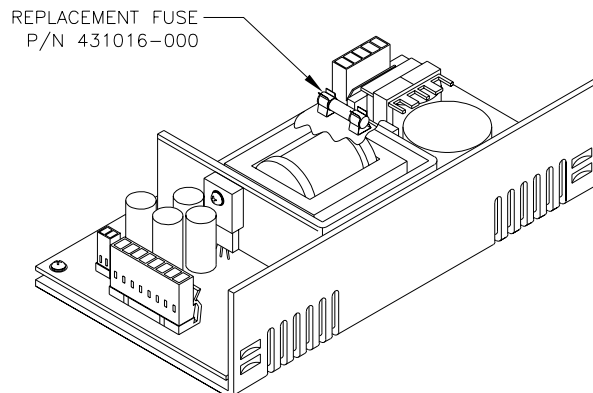

Fig. 2. Location of Fuse in Power Supply
1. In the event the charger is not functioning, it is possible there is a defective fuse in the power supply. See Figure 2 for the fuse location. The fuse is ceramic, 5 x 20 mm, rated at 4A, 250V, and can be found at any local electronics supply house. You can also order this fuse from OTS (part number 431016-000).